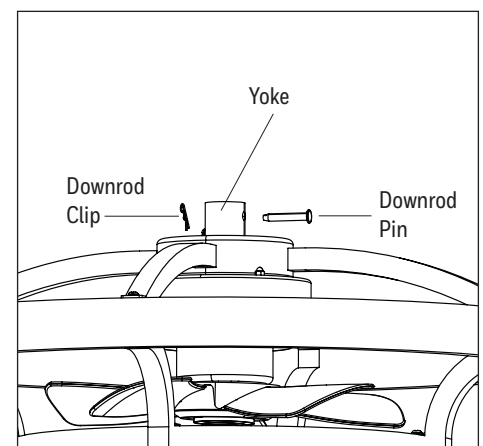

Figure 2.3
3. Remove the downrod clip and downrod pin from the yoke at the top of the motor assembly (Figure 2.3).